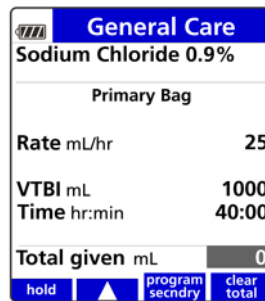

Figure 41. Programmed Primary Setup Screen Showing Program Secndry Soft Key.
4. When finished programming the Pump for the primary infusion and before running the infusion, press the **program secndry** soft key to begin programming the secondary bag. See Figure 41.